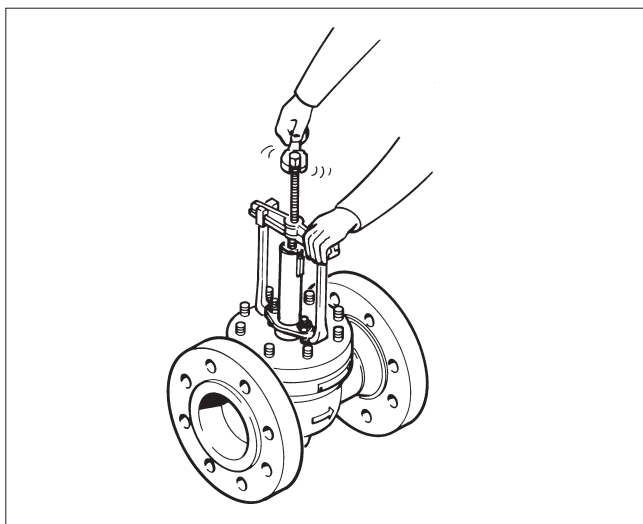

Fig. 9 Detaching the bonnet
- Pre-compress the packing rings (69) first tightening the gland nuts (18) to the torque Tt. See Fig. 9 and the value from Table 2.
- Retighten the nuts (18) to the torque Tt, see table 2.
- Check leakage when the valve is pressurized. If the leakage still occurs when the valve is pressurized, re-tighten the nuts (18) but don't exceed the torque Tt value in the Table 2 by 50 %.
- Remove the key (10). Check that there are no burrs on the edges of the key slot.
- Loosen the gland packing by unscrewing the nuts (18).
- Remove the hexagon nuts (16) on the bonnet.
- Lift the bonnet. You may use an extractor as help, see Fig. 9.